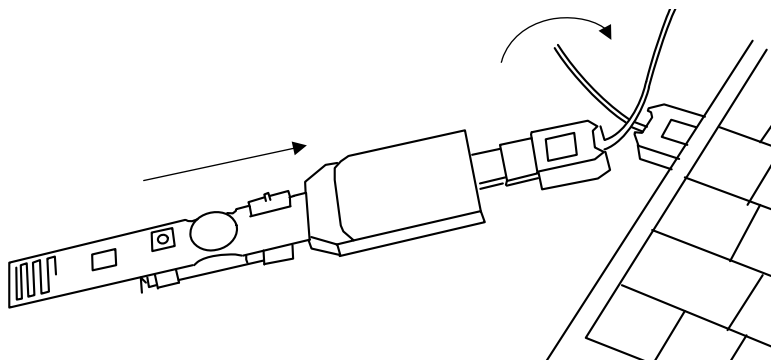

Figure 12. Connect Adapter to PC USB Port
3. Plug the node board in to the ToolStick Programming Adapter, and connect the adapter to your PC's USB port as shown in Figure 12.